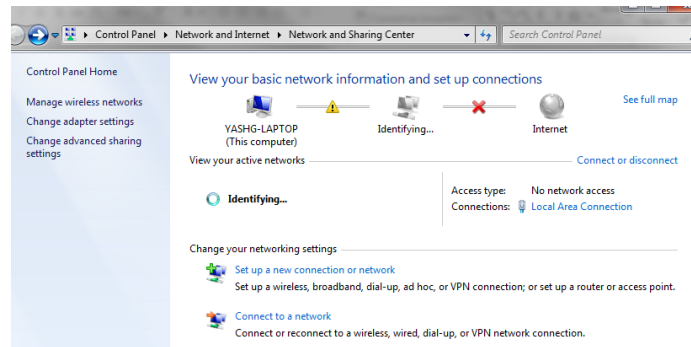
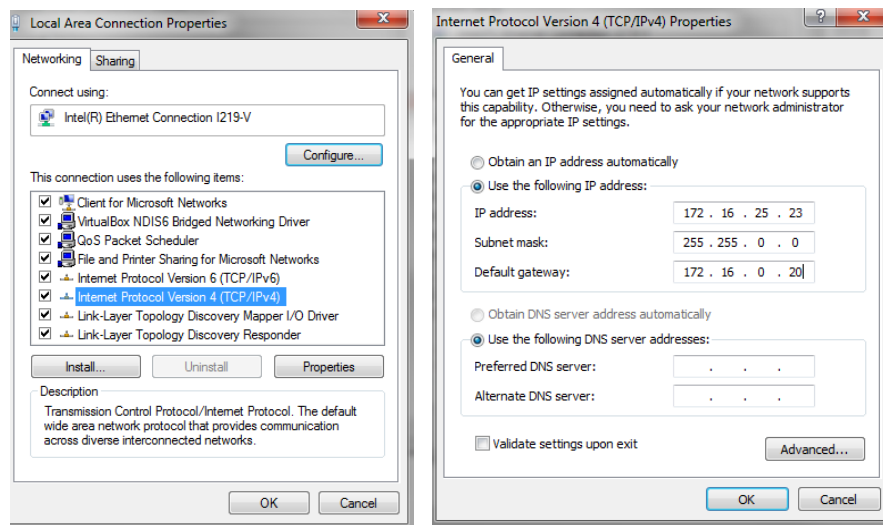

Figure 34: Network and Sharing Center screen before changing network settings.
Figure 35: (a) Local Area Connection Properties Dialog box and (b) Internet Connection Properties
- The Local Area Network (LAN) connection is shown with a yellow warning symbol (see **Figure 34** since the IP Address is not specified. Select Local Area Connection shown in blue under Connections to open the Local Area Connection properties dialog box (see **Figure 35**).
- Enter the IP Address and Gateway (optional) shown in **Figure 35**. The Network ID of the specified IP Address (172.16.25.23) matches that of the FL-1 (172.16.16.22).
9. Click OK. The yellow warning symbol disappears, as shown in **Figure 34**, indicating that the connection was successful.